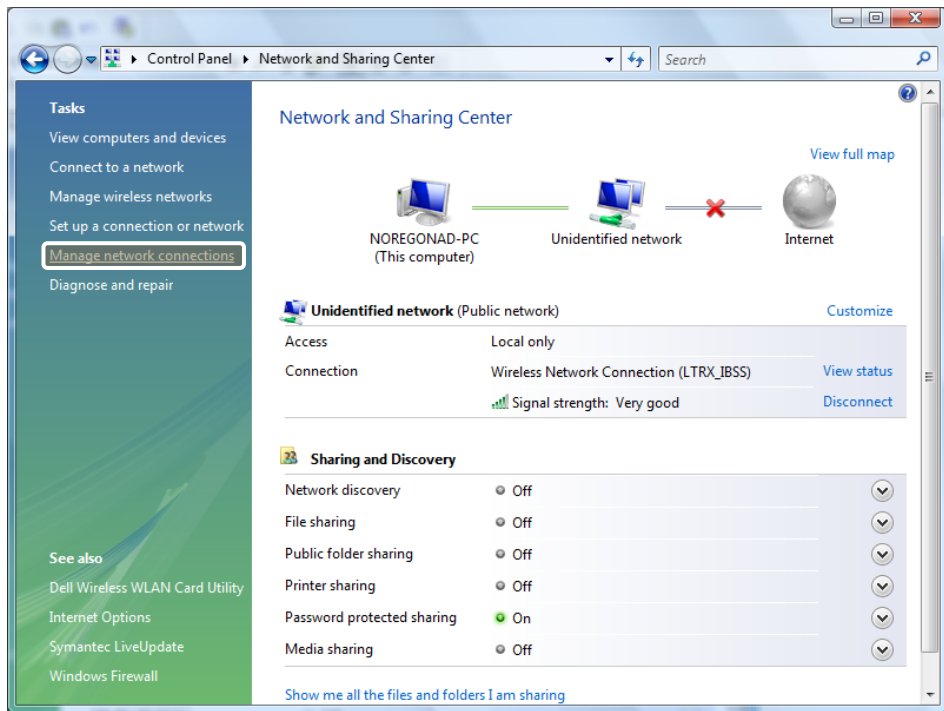

Figure 39
7. On the left side of the Network and Sharing Center dialog, click the **Manage Network Connections** link (see highlighted box in Figure 39 below).